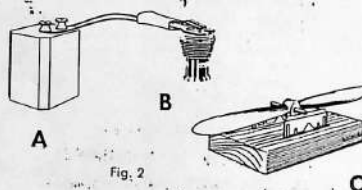

Fig. 2
4. Procure a 1 1/2 volt dry cell battery, #6 or equivalent, and connect it with 2 flexible insulated wires to a glow plug clip as shown in the diagram A and B-Fig. 2. Do not use a stronger battery. If you do, the plug will burn out. The connections should be soldered to insure good contact and taped to prevent bare ends of wire from getting together and "shorting" the battery. Be sure the battery is a good one. Your dealer sells batteries and glow plug clips. The Thimble-Drome plastic mounted glow plug clip with wires already attached is recommended.
5. Balance and trim propeller. This is very essential for good performance. Sand off any bead of plastic along edges of blades. Fit a drill or shaft through the hole and rest the shaft on razor blades set in wooden blocks as shown in C-Fig. 2. Sand the heavy blade until the propeller will balance in a horizontal position. Care must be exercised to do the sanding without spoiling the airfoil characteristics.
5. Connect the battery by snapping the clip on the glow plug, B-Fig. 2.